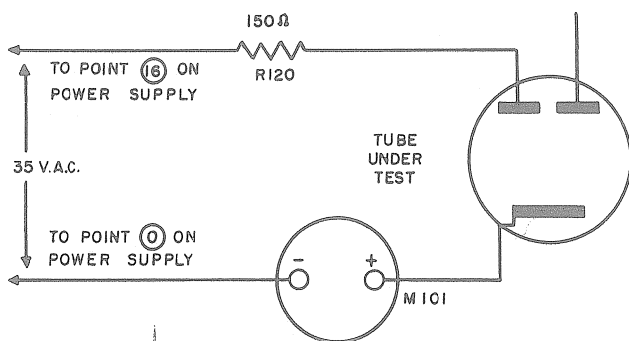

Figure 2-6.—Simplified Rectifier Test Circuit.
#### 7. RECTIFIER TEST. (See Figure 2-6)
e. Pressing the button P-6 sets up a circuit similar to figure 2-6, but a higher voltage is applied, 330 volts ac, for testing rectifiers of the cold cathode type such as the OZ4 type.
f. Pressing button P-2 also establishes a circuit similar to figure 2-6, but a lower voltage, 20 volts ac, is used to protect the delicate cathodes of diode detector types such as the 6H6.